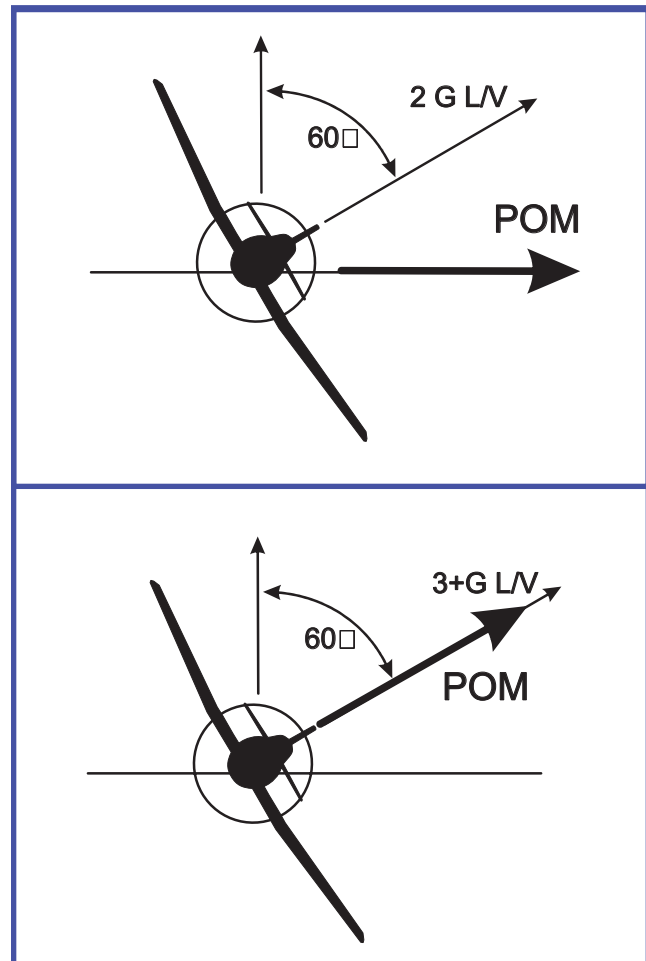

Figure 4.1 Lift Vector (L/V) and Plane of Motion
In the early 1990’s, the “Darton” T-28 formation instructional videos providing an example of a two ship exercise in teaching closure control called “Extended Trail”. This exercise has a long history of utilization by the by the USAF under the same title during primary formation training (and in a modified form and title by the US Navy), and strives to teach wingmen relative position and closure control through application of pursuit curves (lead, lag and pure pursuit) within a three dimensional “cone of maneuvering airspace” aft of lead (see fig. 4.1). While
A line perpendicular to the longitudinal and lateral axes, extending vertically through the top of the aircraft (90 degrees to the wings). The lift vector may approximate the POM of the aircraft with sufficiently applied load factor (G), see figure 4.1.
Unlike line astern Tail Chasing, Extended Trail comprises a cone shaped envelope of maneuvering airspace that can be utilized by the wingman using lead, lag and pure pursuit. See figure 4.1.
- [ET] The Lead's six o'clock position - inside 30 degrees aspect - is a transition area only. Lead can not see you in this position; always strive to remain at 30-45 AA. Fly in a donut around Lead's six o'clock position as depicted in figure 4.1.